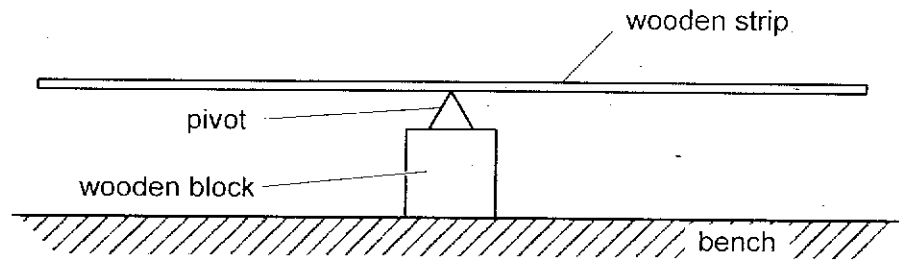

Fig. 2.1
- (a) Position the wooden strip on the pivot as shown in Fig. 2.1 so that it is balanced.